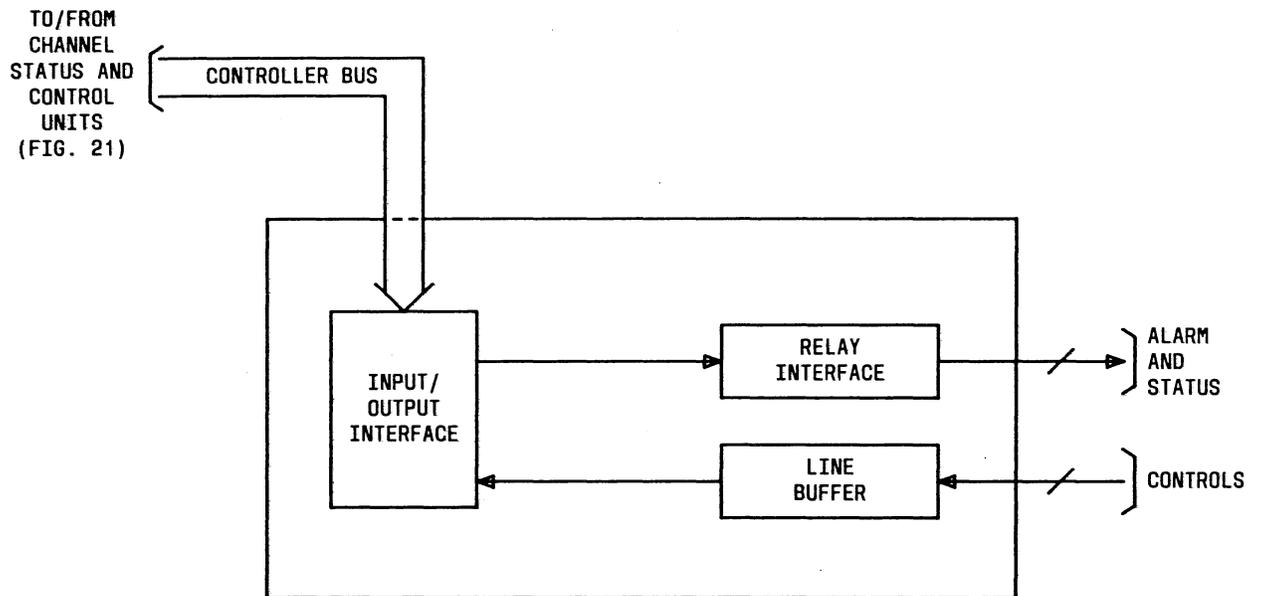

Fig. 25—Discrete AS&C Telemetry
- Figure 25—Discrete AS&C Telemetry.